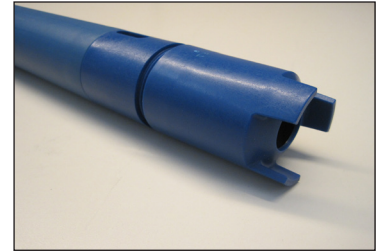

Figure 1 A & B
1. **Cover, Impeller, & Diffuser Removal** - Unthread the diffuser cover (item 18 or 19). Turn it clockwise (left-hand thread). See *Figure 1 A & B*. Unthread the impeller (item 17) turning it counter clockwise (right hand thread) using your hand while holding the coupling insert and coupling half (items 1 & 2) with the other hand. See *Figure 2 A & B*. Note: If the shaft unthreads from the coupling, use a pliers to hold the bottom of the shaft just above the impeller. See *figures 3 A & B*. For longer 40" to 72" pump lengths, two people may be required to hold the shaft and unthread the impeller.